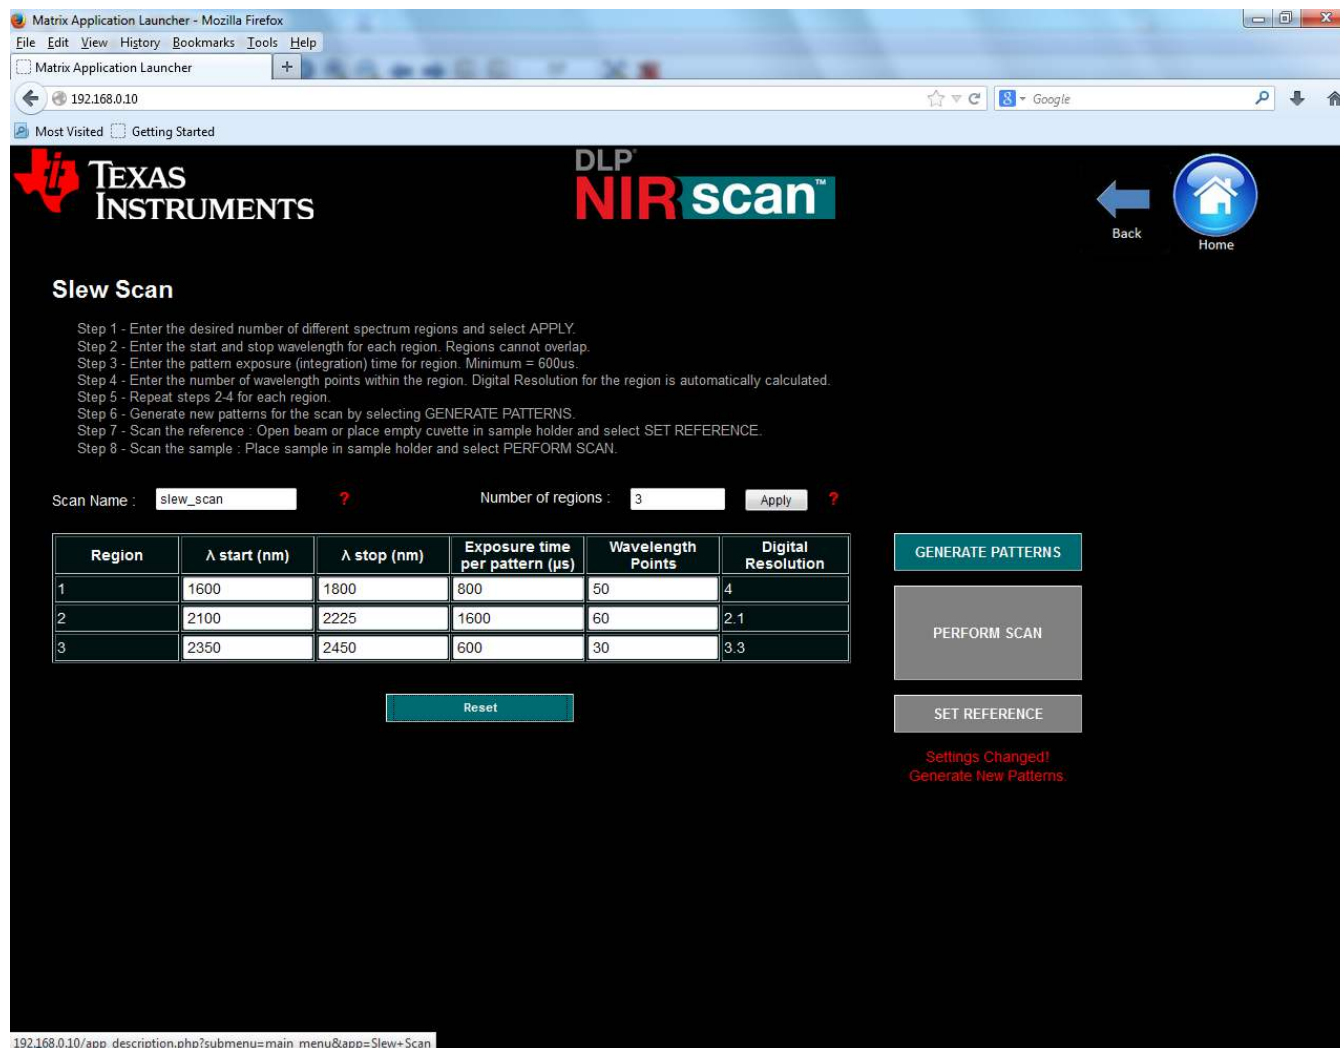
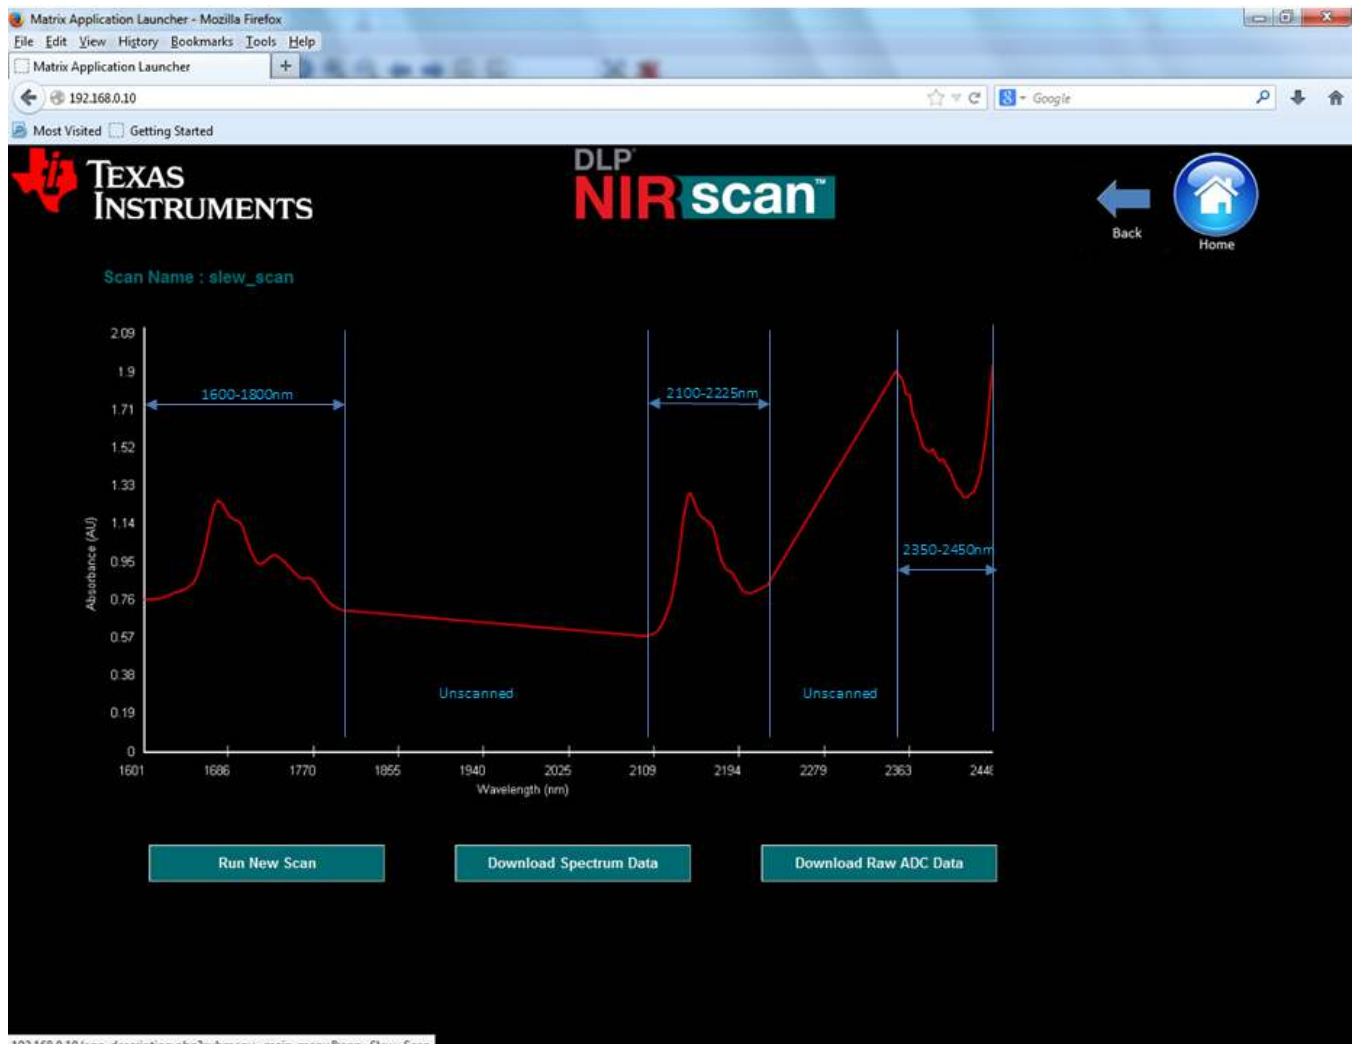

Figure 3-8. Slew Scan Screen
Figure 3-9. Example Slew Scan
- **Wavelength Skipping:** Sometimes, the entire spectral range need not be scanned for users to identify specific molecules within a sample. Scanning a subset of defined spectral regions of the spectral range is all that is needed. In this case, uninteresting regions of the spectrum can be omitted in the scan by specifying only the spectral regions of interest. Gaps between segments are allowed. Figure 3-8 shows a Slew Scan configuration example showing how spectral regions of interest are entered in the table - all other areas of the spectrum not entered are ignored, thereby making the scan much shorter yet still capable of detecting the presence (or absence) of important molecules.
Below are the steps to setup and execute a Slew Scan. This example uses 3 regions which are not contiguous, have different exposure times per pattern in each region, and different digital resolutions for each region. The configuration is located above in Figure 3-8. Graphical output results are shown below in Figure 3-9
The graphical representation in Figure 3-9 shows the absorbance spectrum of the sampled material, with absorbance units (AU) on the y-axis and wavelength on the x-axis. The 3 regions of interest are highlighted in blue and the two regions not of interest are identified with the word "unscanned". Each scanned region is measured based on the configuration information supplied for that region. For unscanned spectral regions not configured in the configuration table, the graphical output shows a straight line from the last wavelength in region N to the first wavelength in region N+1.